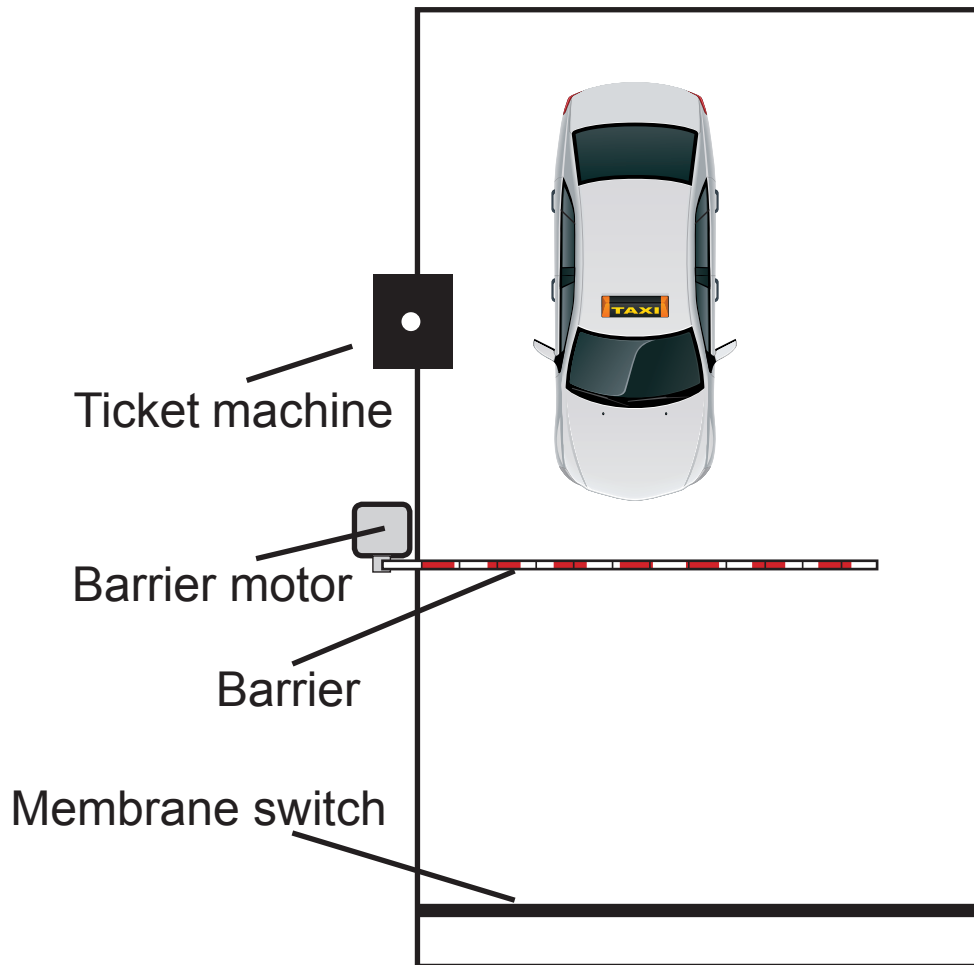

Fig. 7
- 9 **Fig. 7** shows an outline plan view of the layout of a semi-automatic barrier system for a car park.
Q9 - - - Fig. 7 © tarras / iStock / Thinkstock